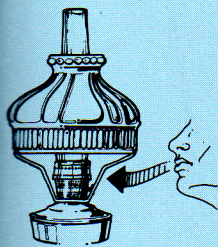
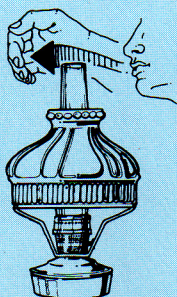

Fig. 9
Fig. 10
8. To put out light, turn wick just below wick tube until flame disappears. Blow softly into burner (Fig. 9) or across top of chimney (Fig. 10) to insure flame is extinguished. Raise wick to check that lamp is no longer operating before leaving unattended. NEVER LEAVE YOUR LAMP UNATTENDED WHILE IT IS OPERATING. IF YOU MUST LEAVE THE ROOM, EXTINGUISH THE LAMP.